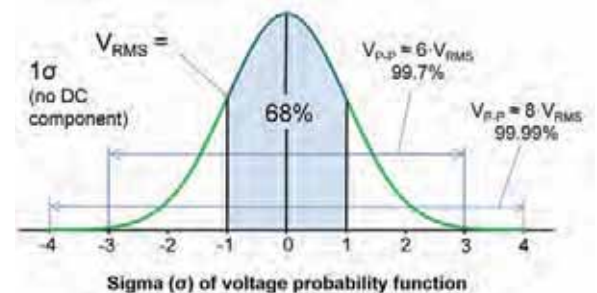

Figure 58: Gaussian noise spikes outside the ± 3 -times range are rare.
Resistor noise is also Gaussian, a description of its amplitude distribution, a probability density function. It is Gaussian because it was created by the summation of a gazillion little random events. The central limit theorem explains how this noise becomes Gaussian. The root-mean-square (RMS) voltage of alternating current (AC) noise is equal to $\pm 1 \sigma$ of the amplitude distribution (Figure 58). For 1-V RMS noise, there is a 68 percent ($\pm 1 \sigma$) probability that the instantaneous voltage will be within a ± 1 -V range. A common misconception is to relate or equate white and Gaussian, but they are unrelated. Filtered resistor noise, for example, is not white but remains Gaussian. Binary noise is definitely not Gaussian, but it can be white. Resistor noise is white **and** Gaussian.